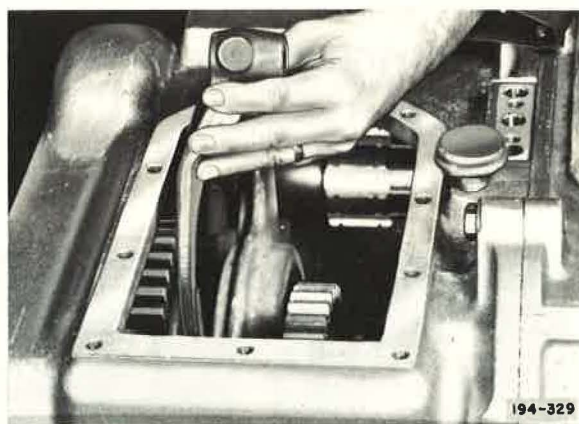

Figure 41. Installing Reverse Speed Shifter Fork
26. Install reverse speed fork on reverse speed sliding gear and install first speed fork on first speed sliding clutch. See Figures 41 and 42.